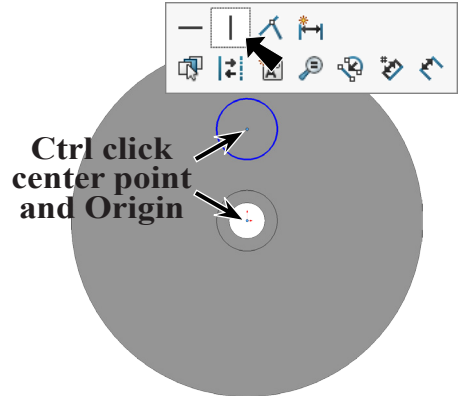

Fig. 14
Step 5. **Ctrl click centerpoint of circle and Origin**  to select both. Release Ctrl key and click **Make Vertical**  on the context toolbar, **Fig. 14**.